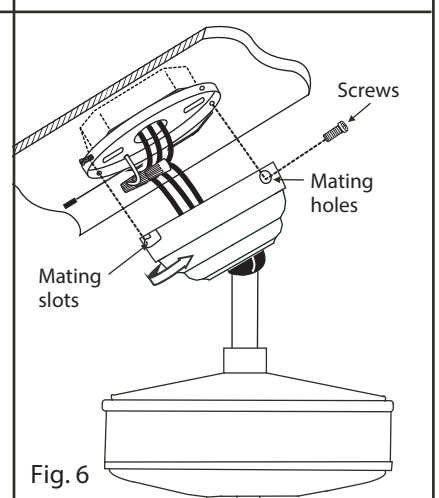

Fig. 6
6. Carefully lift fan from mounting plate hook, making sure not to break any wire connections. The canopy has 2 mating slots and 2 mating holes. Position both slots in canopy directly under and in line with 2 mounting plate screws and lock washers. Lift fan until mounting plate screws are seated in bottom of slots in canopy. (Fig. 6)
7. Rotate canopy clockwise until both mounting screws drop into slot recesses. Tighten screws securely. Install third and fourth screws with lock washers into mating holes and tighten. (Fig. 6)